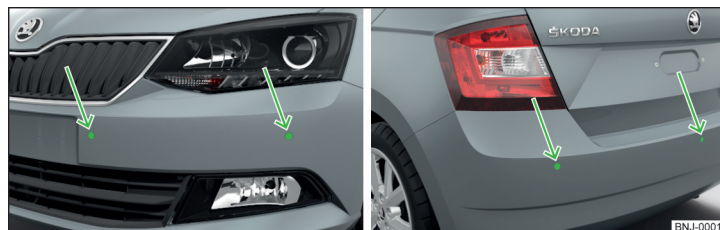

Fig. 115 Fitting the ultrasonic sensors: front/rear
The system uses ultrasound waves to calculate the distance between the bumper and an obstacle. The ultrasonic sensors are, depending on vehicle equipment, located in the back or in the front bumper » Fig. 115 on page 117.
- Keep the system sensors » Fig. 115 on page 117 clean, snow- and ice-free and do not cover with any objects of any kind, otherwise the system functioning may be impaired.